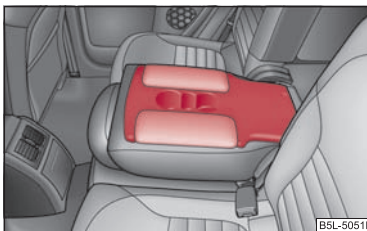

Fig. 66 Rear seats: Armrest
- The middle seat backrest can be folded ⇒ page 74, “Folding rear seats forwards” forwards and used as armrest or table with cup holder ⇒ page 76, fig. 66.